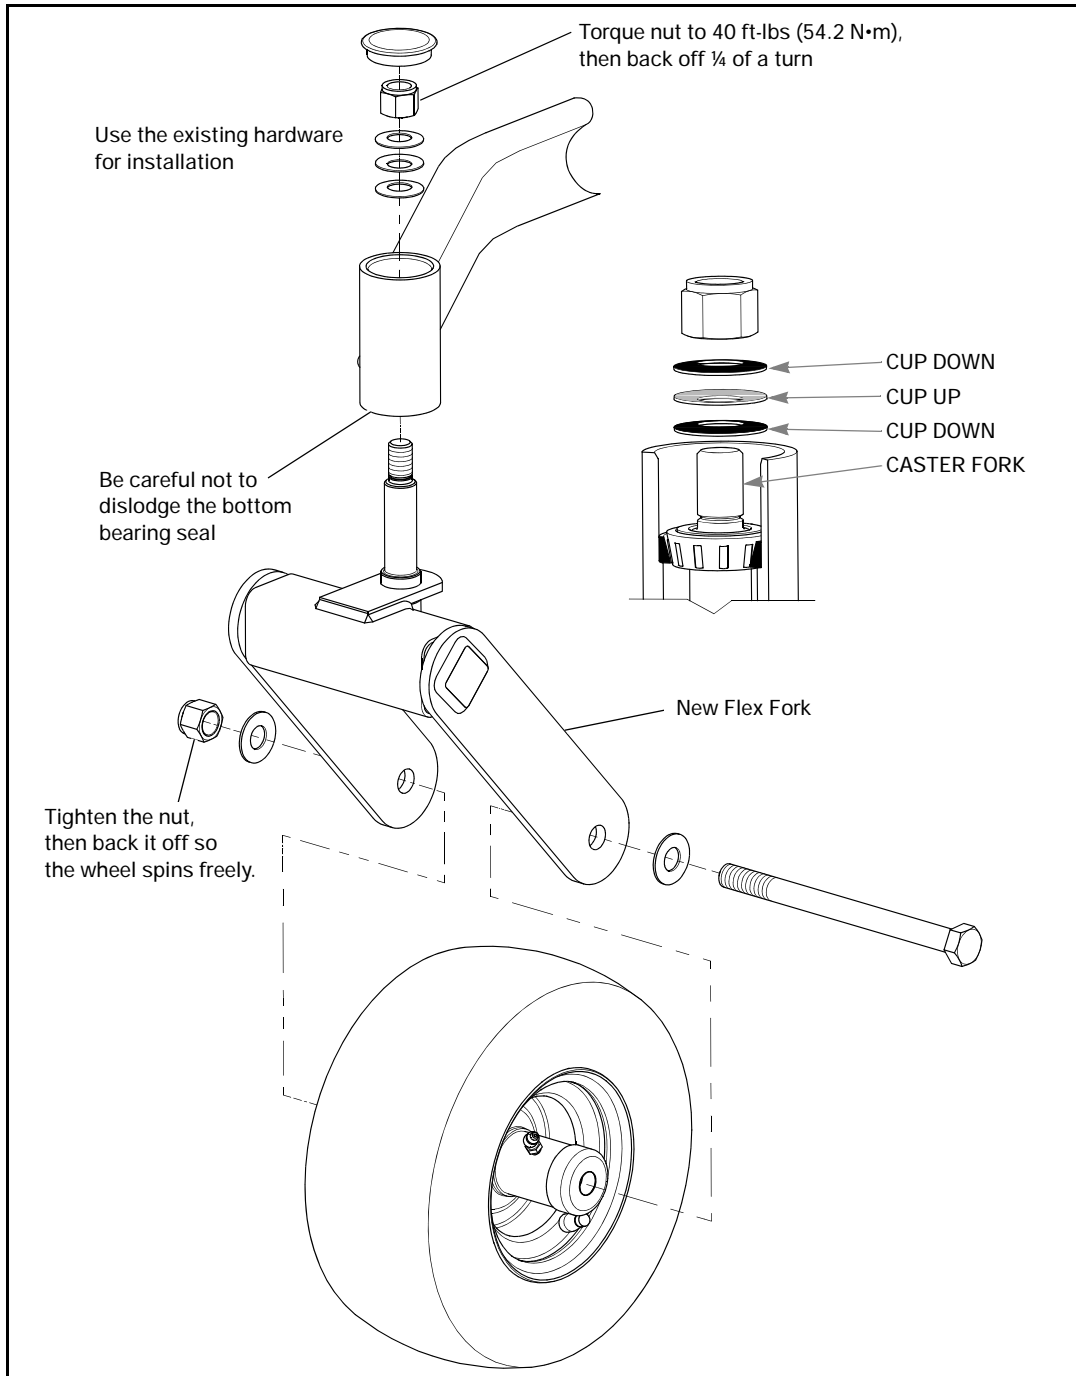

FIG. 1
5. Attach the flex fork to the mower frame using the existing hardware. Make sure that all hardware is replaced exactly as it was removed. Be careful not to dislodge the bottom bearing seal. Fig. 1
10. Attach the wheel and tire to the new flex fork using the existing hardware. Tighten the nut, then back it off so the wheel spins freely. Fig. 1